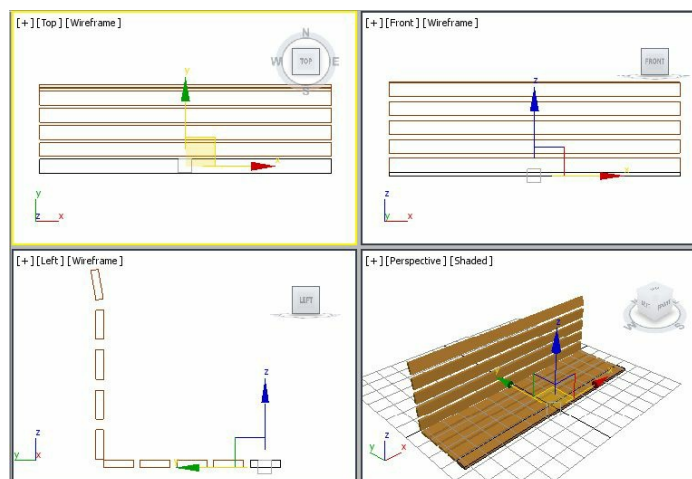

Figure 2-71 Horizontal seat supports displayed in the viewports
- Choose the **Zoom Extents All** tool; all objects are displayed in the viewports, as shown in Figure 2-71.